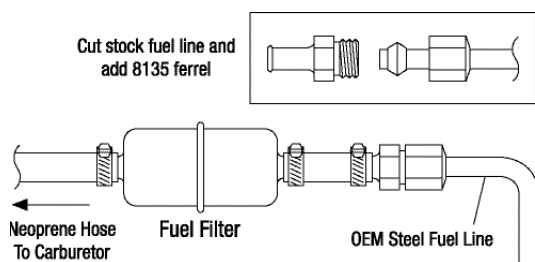

Fig. 3 - Fuel Line Kit #8135 Installed on Stock Steel Line
2. **The stock steel fuel line must be converted** to fuel resistant rubber hose. The stock steel line will not connect to the Performer Series Carburetor. Use Edelbrock Universal Fuel Line Kit #8135. This kit contains a filter, neoprene hose, and fittings to adapt to 5/16” or 3/8” stock steel fuel lines (*See Fig. 3*).